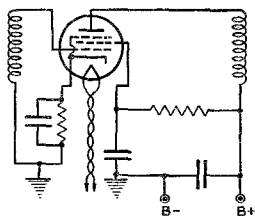
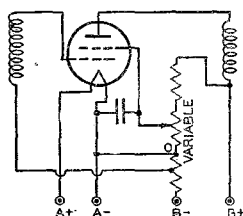

Fig. 58
Fig. 59
characteristic. Fig. 58 shows a pentode with its screen voltage supplied through a series resistor. The positive screen voltage for tetrodes (screen-grid tubes) should be obtained from a proper voltage tap or from a potentiometer connected across the B supply. It should not be obtained from a high-voltage supply through a series resistor because of the characteristic screen-current variations in tetrodes. Fig. 59 shows a tetrode with its screen voltage obtained from a potentiometer. It is important to note that the plate voltage for tetrodes or pentodes should be applied before or with the screen voltage. Otherwise, with voltage on the screen only, the screen current may rise high enough to cause excessive screen dissipation.
**Screen-voltage variation** for the r-f amplifier stages has sometimes been used for volume control in older type receivers. Reduced screen voltage lowers the transconductance of the tube and results in decreased gain per stage. The voltage variation is obtained by means of a potentiometer shunted across the screen voltage supply. See Fig. 59. When the screen voltage is varied, it is essential that the screen voltage never exceed the rating of the tube. This requirement can be met by providing a fixed stop on the potentiometer.